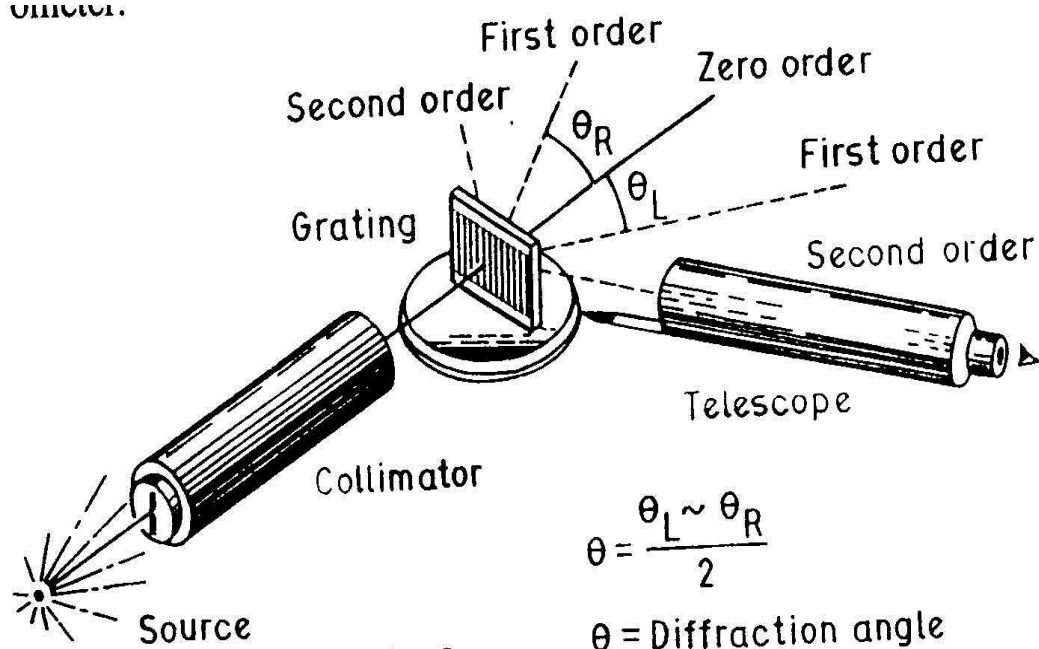

Fig. 5
1. Adjust telescope for parallel rays i.e. focus telescope on the object at infinity. Here we can adjust telescope on an object which is at very large distance. Level the spectrometer and prism table on which grating is mounted using a spirit level. Fig. 5 schematically shows the arrangement of the grating and the spectrometer.
3. Place the grating on the prism table such that the surface of the grating is approximately perpendicular to the collimator of the spectrometer (i.e. perpendicular to the incident slit falling on the grating). Fix the prism table in this position. With the Hg source observe first order spectrum on left hand side and right hand side. Measure the angle of diffraction of each line by rotating telescope so that cross-wire coincides with particular spectral line. Note down each measurement on the observation table I. The diffraction angle is equal to difference between LHS and RHS observation divided by two for a particular spectral line. (See Fig. 5).